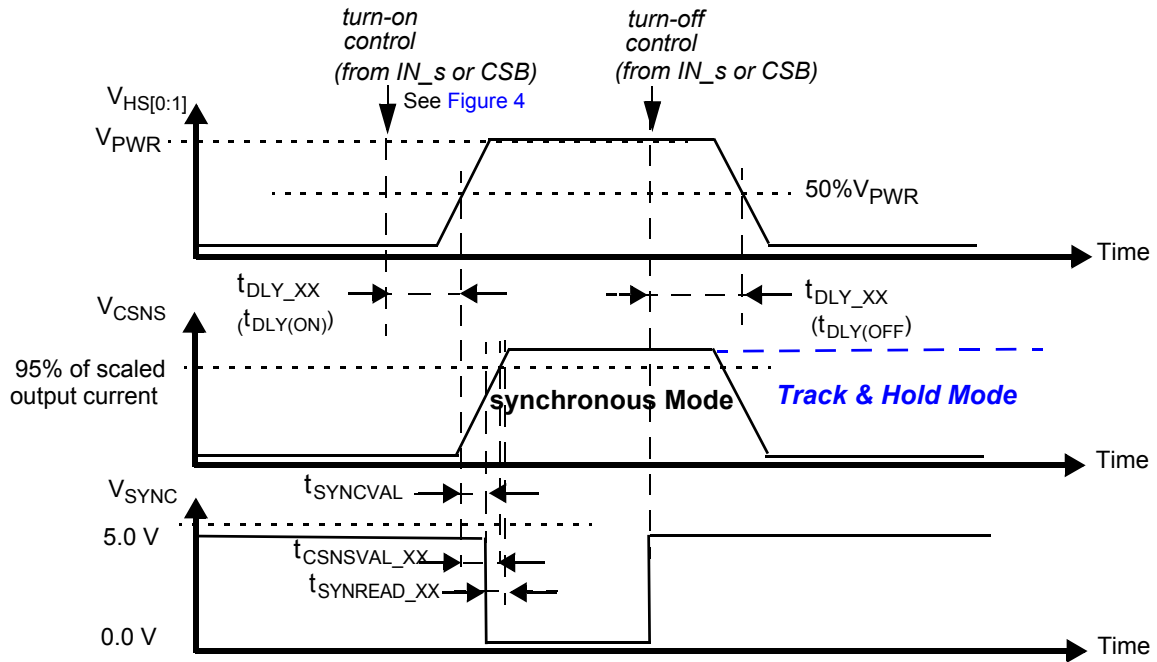

Figure 9. Synchronous and track-and-hold current sensing modes: associated delay and settling times
30. Time required to switch off the channel after detection of overtemperature (OT), overcurrent (OC), SC or UV error (time measured between start of the negative edge on the FSB pin and the falling edge on the output voltage until $V(\text{HS}[0:1]) = 50\%$ of V_{PWR}).
31. Settling time (= $t_{CSNSVAL_XX}$), SYNC output signal delay (= $t_{SYNCVAL_XX}$) and Read-out delay (= $t_{SYNREAD_XX}$) are defined for a stepped load current (100 mA < I(Load) < IOCLX A FOR CSNS_RATIO_S = 1, AND 300 mA < I(Load) < IOCLX A_0 FOR CSNS_RATIO_S = 0). (see Figure 9 and Output current monitoring \(CSNS\))
The CS pin allows independent current monitoring of channel 0 or channel 1 up to the steady-state overcurrent threshold. It can also be used to sense the device temperature. The different functions are selected by setting bits CSNS1_en and CSNS0_en to the appropriate value (Table 23). When the CSNS pin is sensed during switch-off in the (optional) track & hold mode (see Figure 9), it outputs the scaled value of the load current as it was just before turn-Off. When several devices share the same pull-down resistor, the CSNS pins of devices the current of which is not monitored must be tri-stated. This is accomplished by setting CSNS0_en = 0 and CSNS1_en = 0 in the GCR register (Table 10). Settling time ($t_{CSNSVAL_XX}$) is defined as the time between the instant at the middle of the output voltage's rising edge ($HS[0:1] = 50\%$ of V_{PWR}), and the instant at which the voltage on the CSNS-pin has settled to $\pm 5.0\%$ of its final value. Anytime an overcurrent window is active, the CSNS pin is disabled (see Overcurrent detection on resistive and inductive loads). The current and temperature sensing functions are unavailable in Fail-safe mode and in Normal mode when operating without the V_{DD} supply voltage. In order to generate a voltage output, a pull-down resistor is required ($R(CSNS) = 1.0\text{ k}\Omega$ typ. and $470 < R(CSNS) < 10\text{ k}$). When the current sense resistor connected to the CSNS pin is disconnected, the CSNS voltage is clamped to $V_{CL(CSNS)}$. The CSNS pin can source currents up to about 5.6 mA.
To synchronize current sensing with an external process, the SYNC signal can be connected to a digital input of an external MCU. SYNC is asserted logic low when the current sense signal is accurate and ready to be read. The current sense signal on the CSNS pin has the specified accuracy $t_{SYNCREAD_XX}$ seconds after the falling edge on the SYNC pin (Figure 9) and remains valid until a rising edge is generated. The rising edge that is generated by the SYNC pin at the turn-OFF instant (internal or external) may also be used to implement synchronization with the external MCU. Parameter $t_{SYNCVAL_XX}$ is defined as the time between the instant at the middle of the output-voltage rising edge ($HS[0:1] = 50\%$ of V_{PWR}), and the instant at which the voltage on the SYNC-pin drops below 0.4 V (V_{SOL}). The SYNC pins of different devices can be connected together to save μ -controller input channels. However, in this configuration, the CSNS function of only one device should be active at a time. Otherwise, the MCU does not determine the origin of the SYNC signal. The SYNC pin is open drain and requires an external pull-up resistor to VDD.